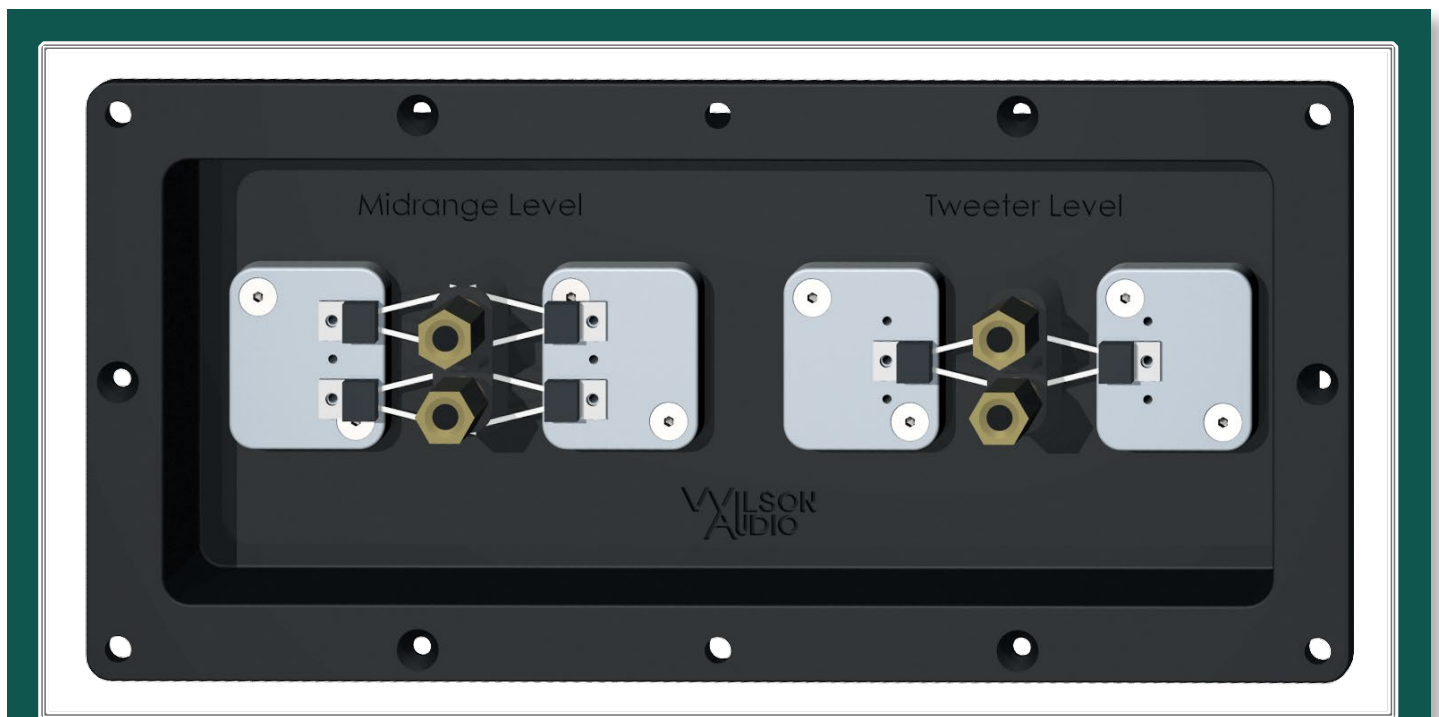

FIGURE 15 - MID & TWEETER RESISTOR PLATE LOCATED IN THE REAR OF THE WOOFER ENCLOSURE
5. Using the 5/8" nutdriver, loosen the binding post and remove the open resistor. (See Figure 15.)